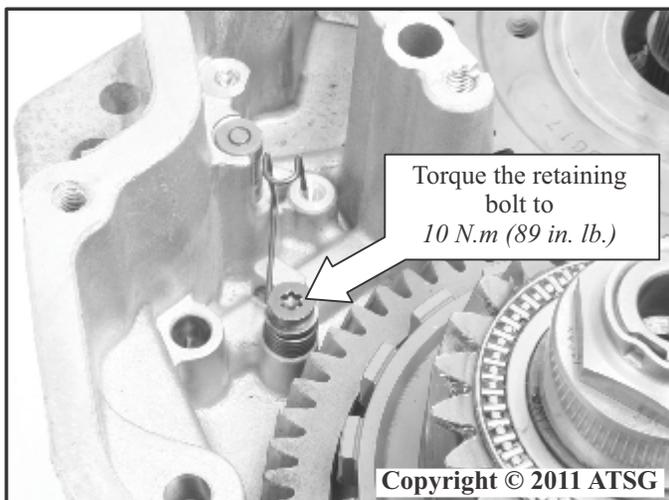

Figure 232
52. Install the parking pawl pin spring, the guide sleeve/spacer the parking pawl pin spring retaining bolt as shown in Figure 232.